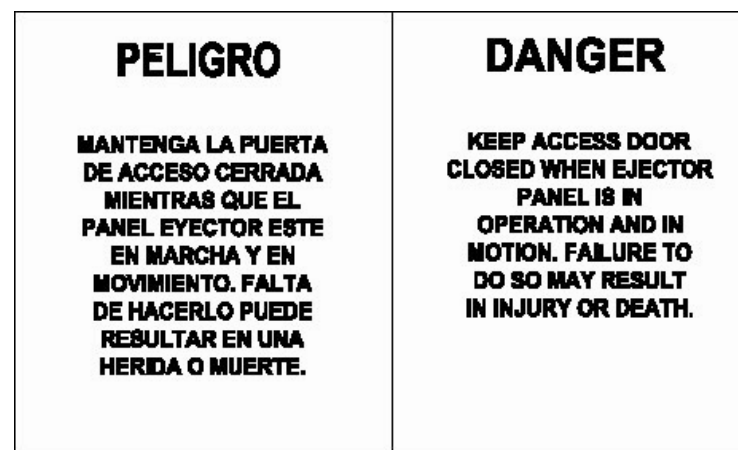

Figure 10. Access Door Danger Decal, PN 212-1907
- Figure 10 shows a DANGER decal about the access door.